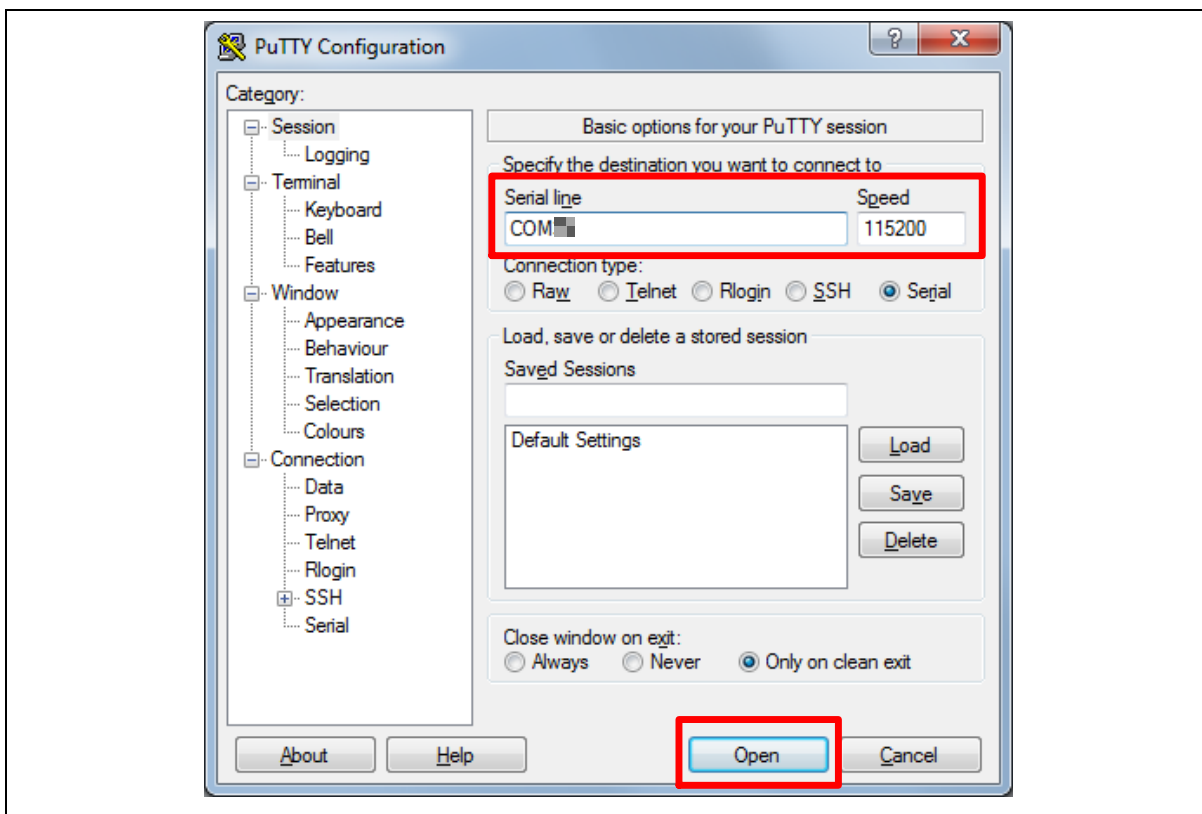

Figure 5-6 PuTTY Session Setting
- 4. Open a serial port terminal, PuTTY for example, to print out debug message. Set the speed to 115200. Figure 5-6 presents the PuTTY session setting.